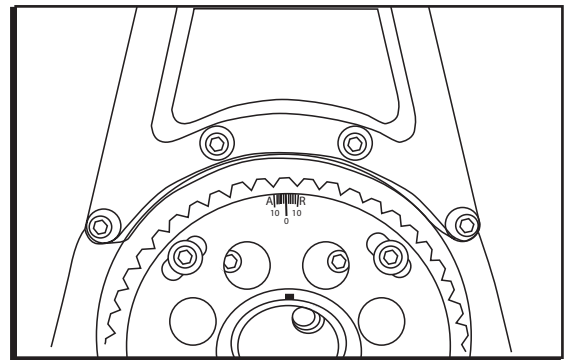

Figure 1 Installing the Distributor Bracket.
1. Install the distributor assembly using the four supplied socket head cap screws and washers (Figure 1).